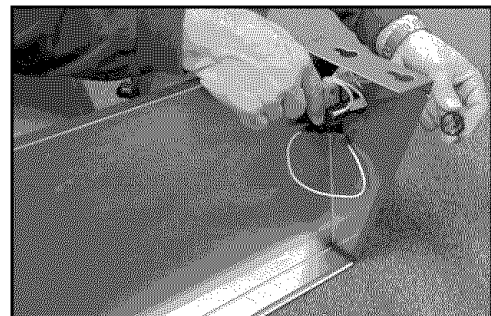

Fig. 3
3. Insert the threaded section of the igniter through the hole in the shelf and secure to shelf using the lock nut. **(Use the igniter assembly diagrams to determine which igniter goes with which shelf.)** Tighten securely. (See Fig. 3)